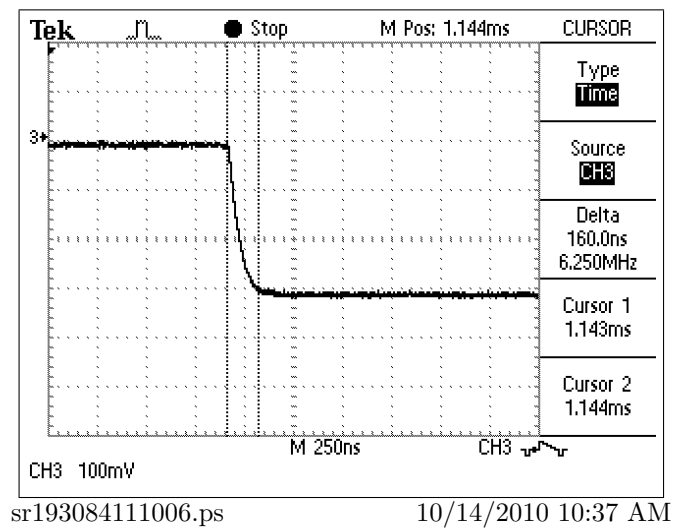

Figure 6: VK-S275R 0501-0102, HSYNC Leading Edge Rise Time, Capture #4
- 9.6 Figure 6, page 5, shows the leading edge timing of the HSYNC pulse.